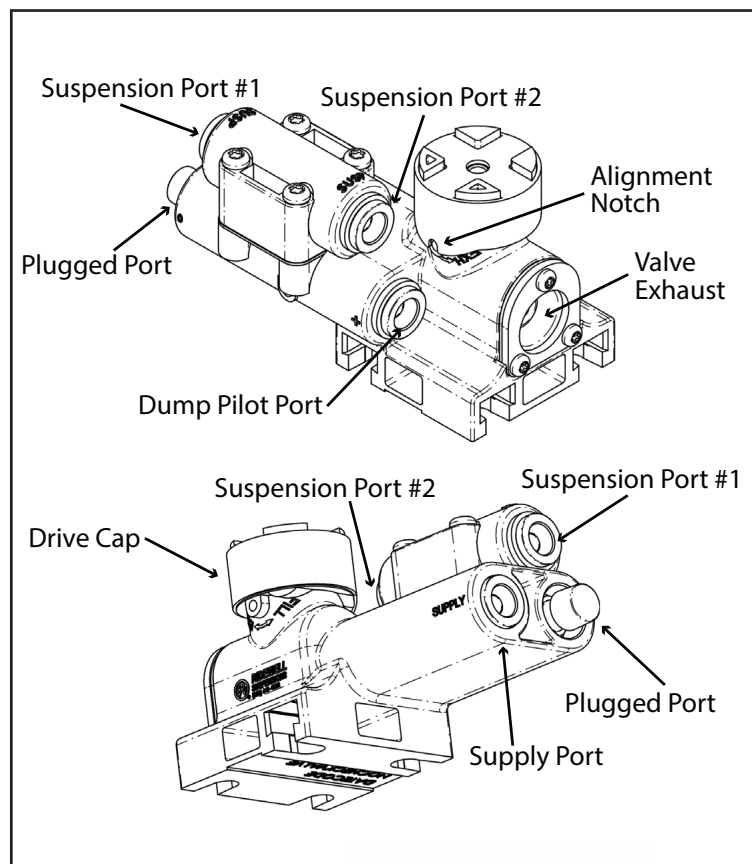

Figure 2.
5. Install air lines to the HCV supply port and the suspension and dump ports (Fig. 2; 3)